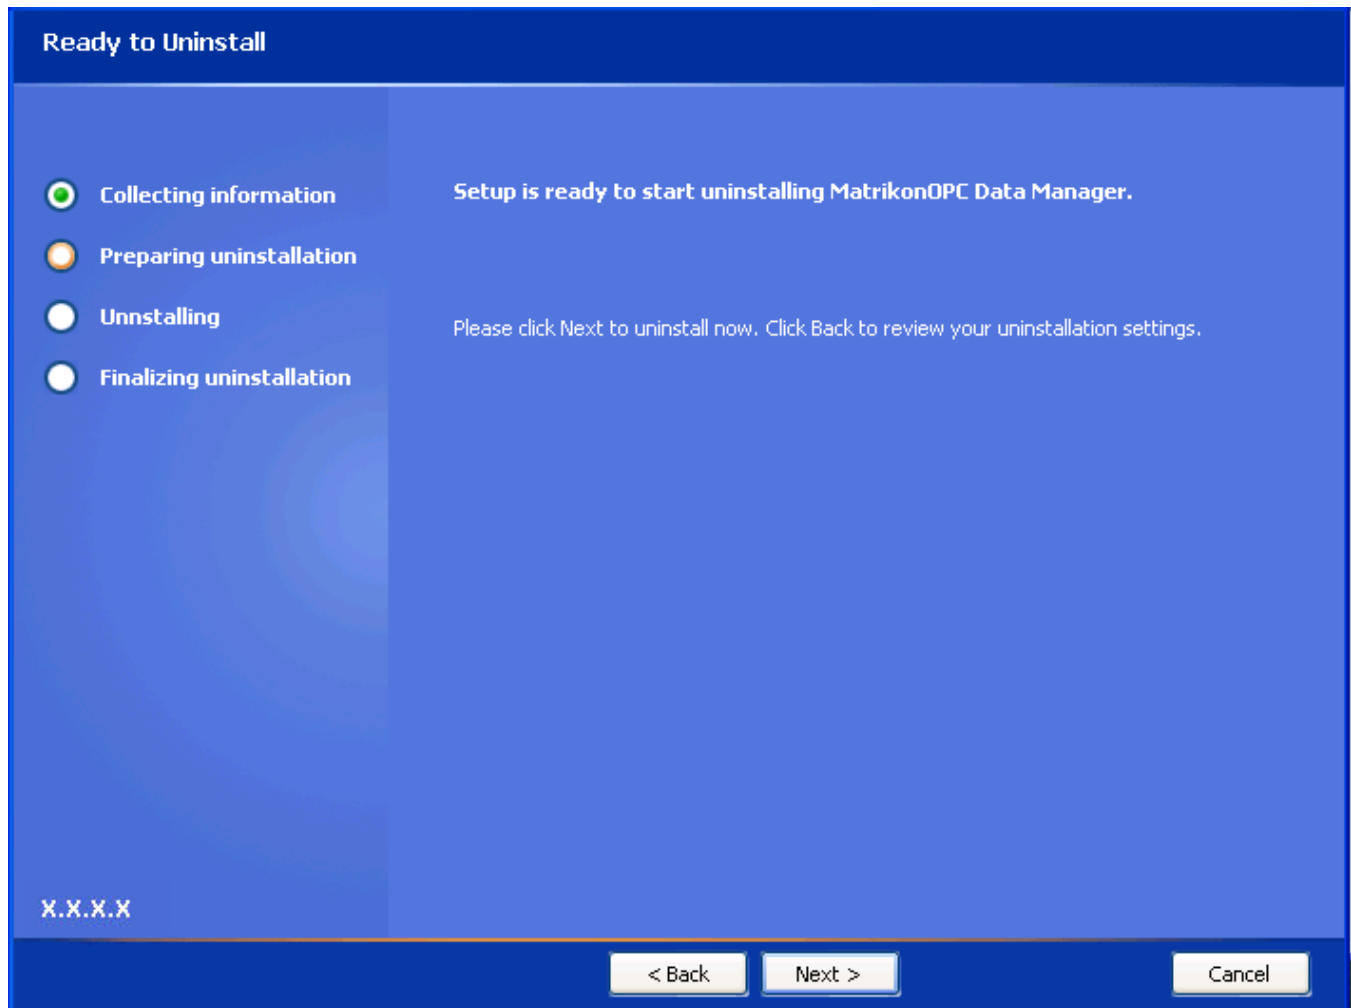

Figure 68 - Ready to Uninstall Screen
9. The **Ready to Uninstall** window (Figure 68) is displayed.